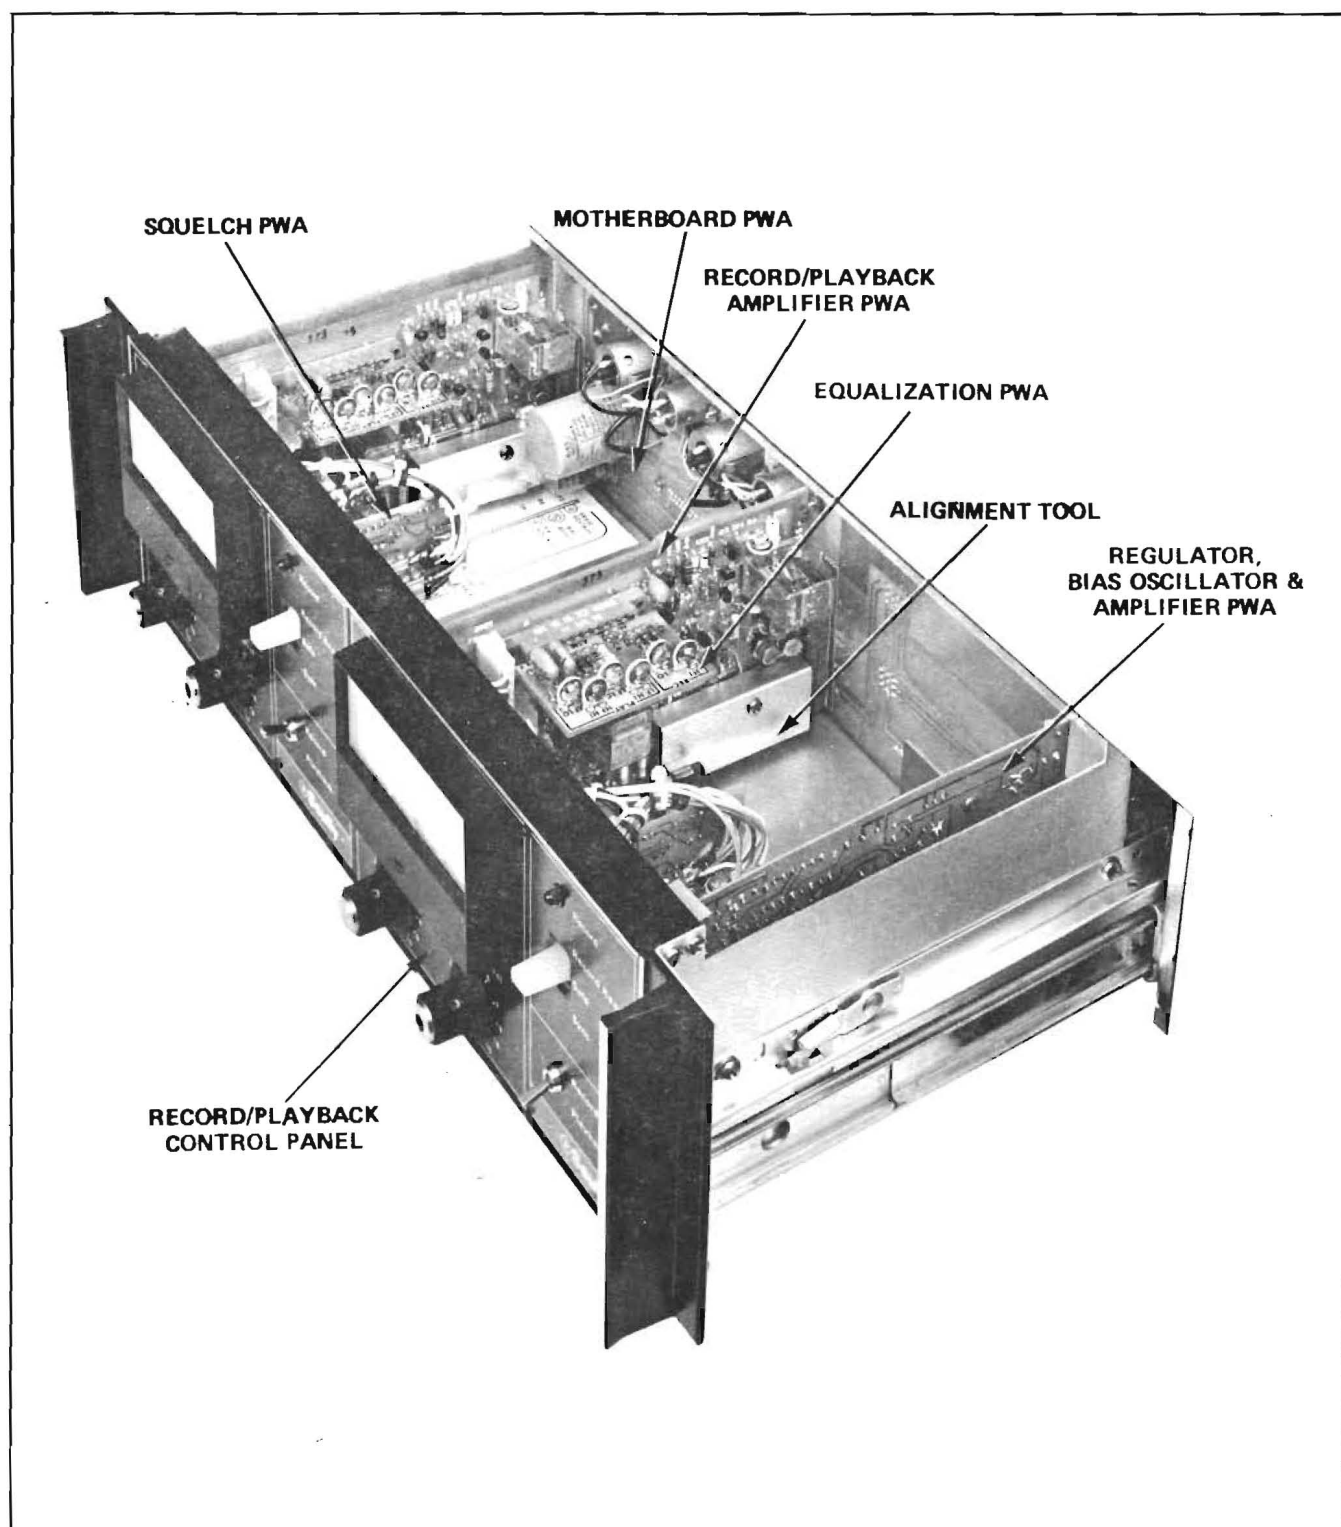

Figure 7-12. Electronics Assembly, Top View
- C. Open the electronics drawer for access to calibration adjustments (Figure 7-12).